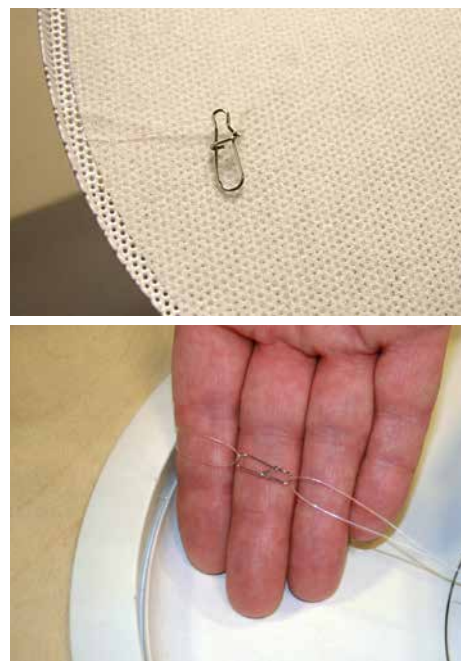

Figure 12. Grille safety clip and line (left) should look like this (right) when attached.
1. Once the loudspeaker is secured in the back can, you can attach the safety cable between the grille and loudspeaker. There is a nylon mono filament loop attached to the grille and looped through a metal clip. Another mono filament line is located inside the bass reflex port of the face of the loudspeaker. Use the metal clip to link these two mono filament loops (Figure 12).